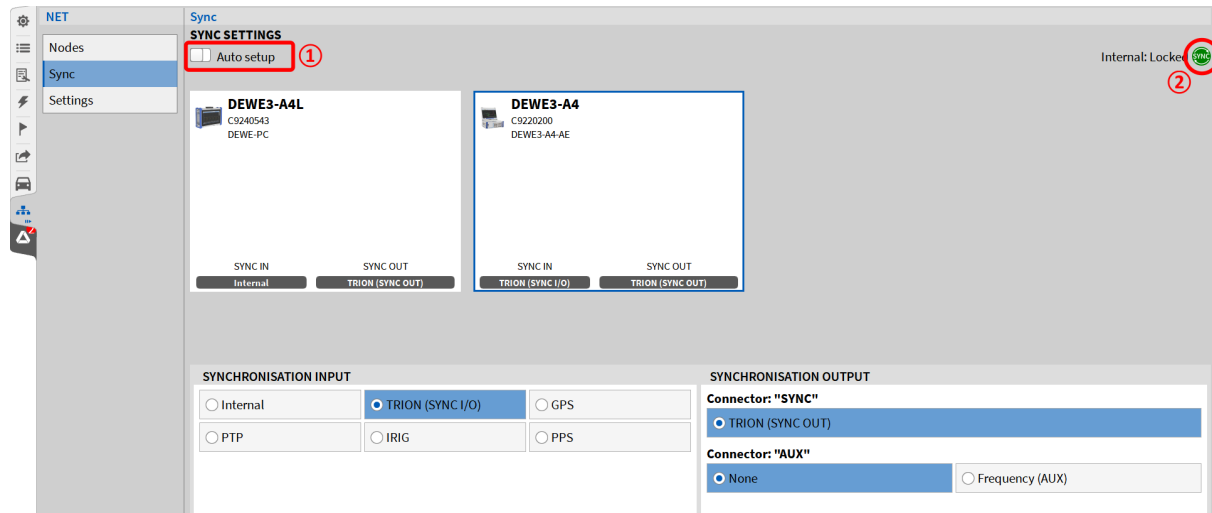

Fig. 15.10: OXYGEN-NET menu – Sync
The Auto Setup slider (see ① in Fig. 15.10) allows users to enable or disable automatic synchronization setup:
The Sync Status Indicator (see ② in Fig. 15.10) displays the current synchronization status of the system: